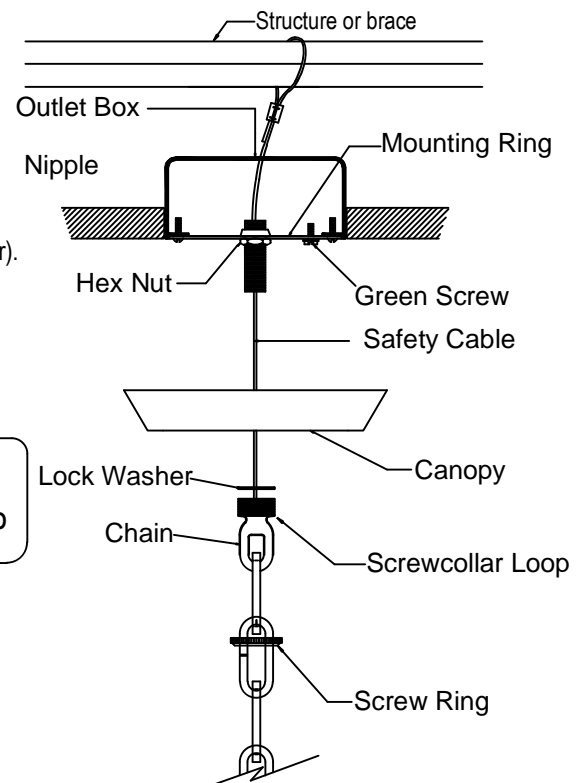

FIGURE-1
1. Attach the mounting ring to the outlet box. (The green screw should face the floor). Attach the safety cable to the building structure or brace. See figure-1.